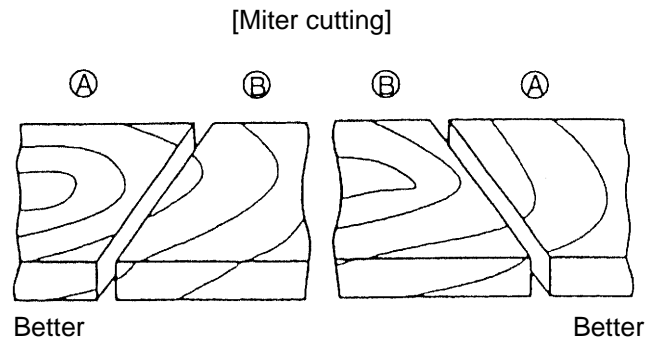

Fig. 6
In the cutting examples illustrated in Fig. 6, the cut surfaces on the sides marked (A) are better than those on the sides marked (B).